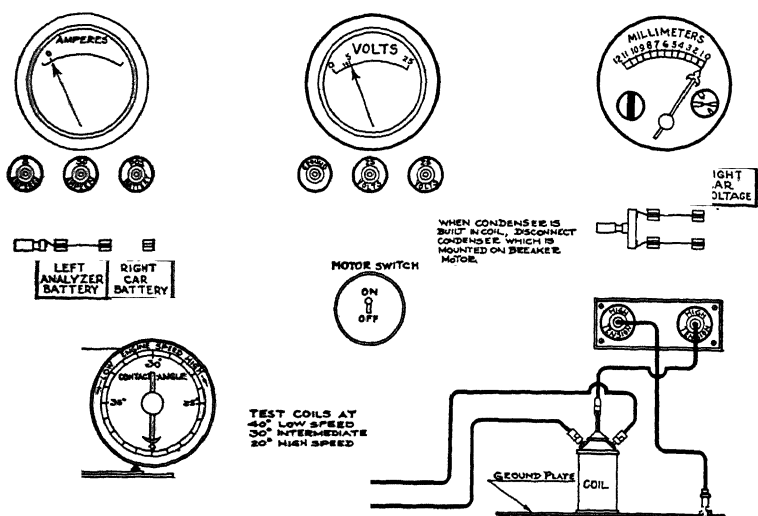

Fig. 18. Equipment for Testing Ignition Coil
**Testing Ignition Coil after Heating.** After the coil is heated, disconnect all wires from coil. Connect one test lead, Fig. 18, to positive-battery terminal on test panel or on motorized breaker-unit base. Connect other ammeter test lead to breaker terminal on test panel, or on motorized breaker-unit base. Connect other ends of test leads to the low-tension terminals of the coil. Either test lead may be